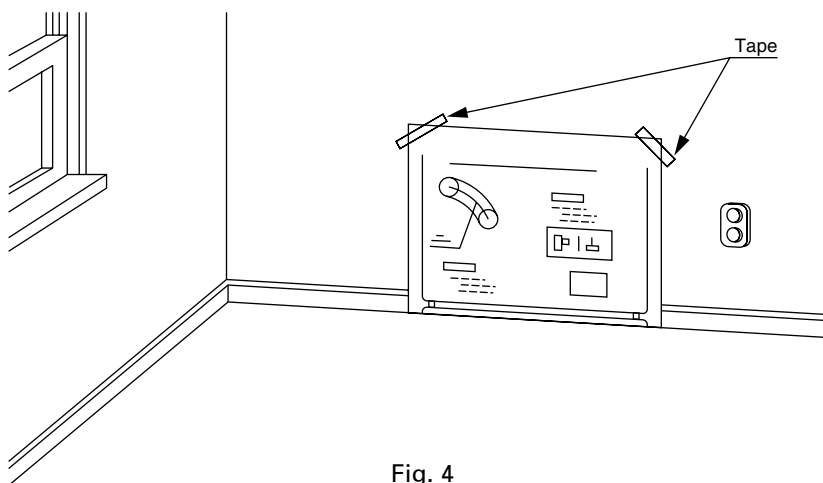

Fig. 4
3. A cardboard template supplied with the heater is to identify location for the wall hole for the Balanced Flue Pipe. Tack or tape template to the wall at the desired position (See Fig. 4).